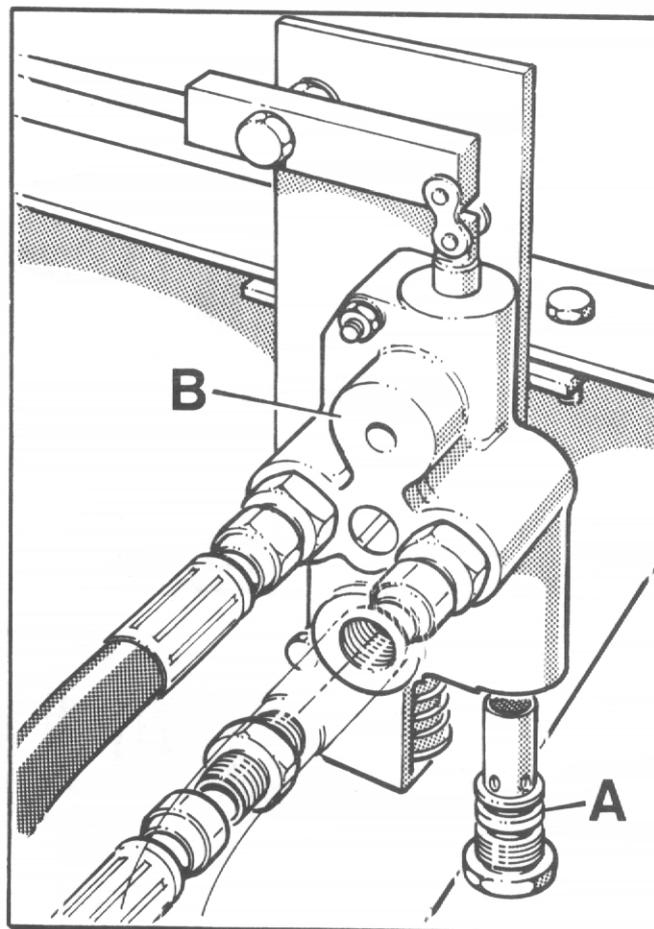

FIG. 8
4. Remove relief valve cartridge (A) (hexagon head) from the bottom of the control valve (B) (See Fig. 8) and replace with a new one.